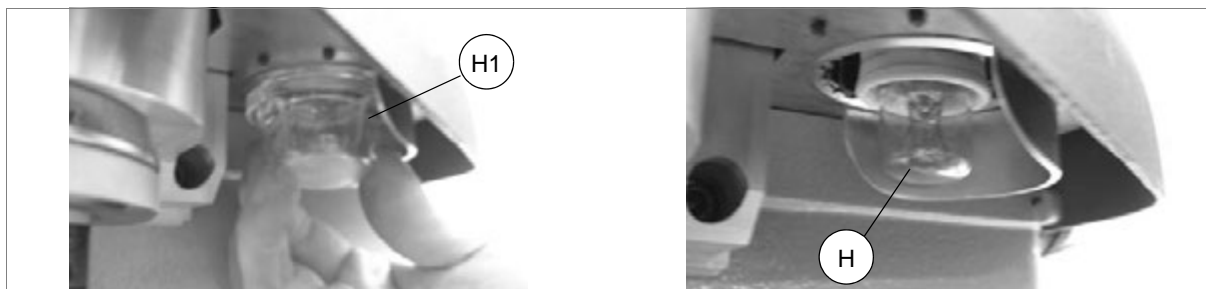

Fig. 90
- 3) remove the lampshade (H1), unscrewing it manually (fig. 90).
- 4) unscrew the light bulb by hand (H) and remove.